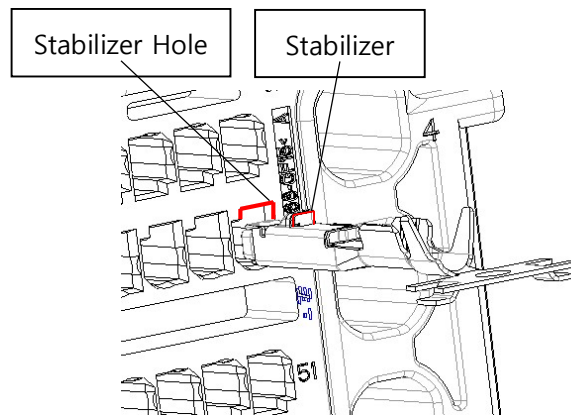

Fig. 7
- (1) Insert contacts into the each specific cavity with proper contact direction as shown in Fig. 7. When contact is latched and the insertion is stopped, operation is complete